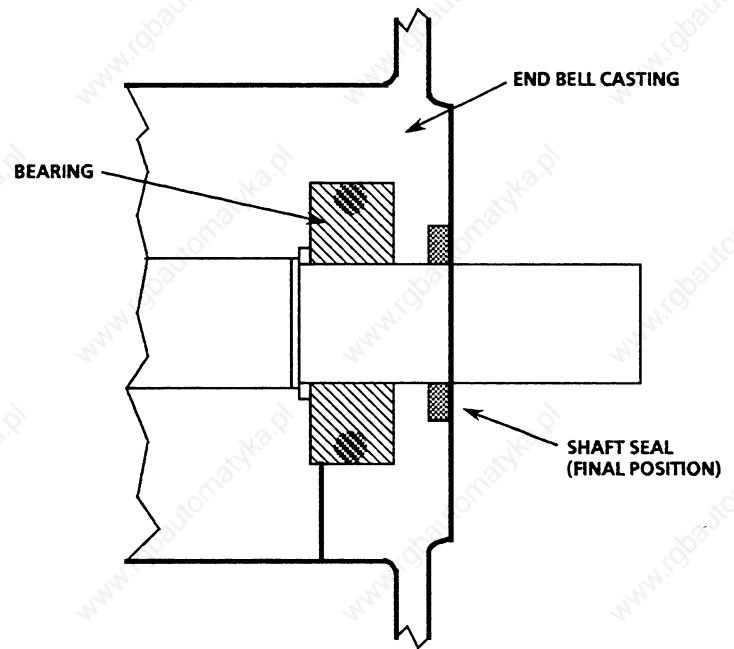

Figure 8.4 – Shaft Oil Seal Installation
- ☐ 2. Place the seal over the shaft (see Figure 8.4). The seal must be installed with the solid shield side facing the motor bearing.